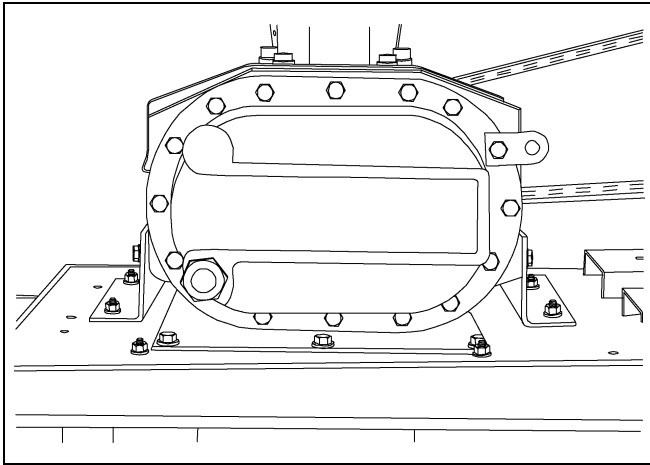

Figure 7H
7. Check the oil level of the blower. The oil level should be at the center of the sight glass. Add part #AS-0886, if required, through the breather plug on top of the blower case. (See Figure 7H.) See the maintenance schedule on Page 13 for the frequency of oil changes.